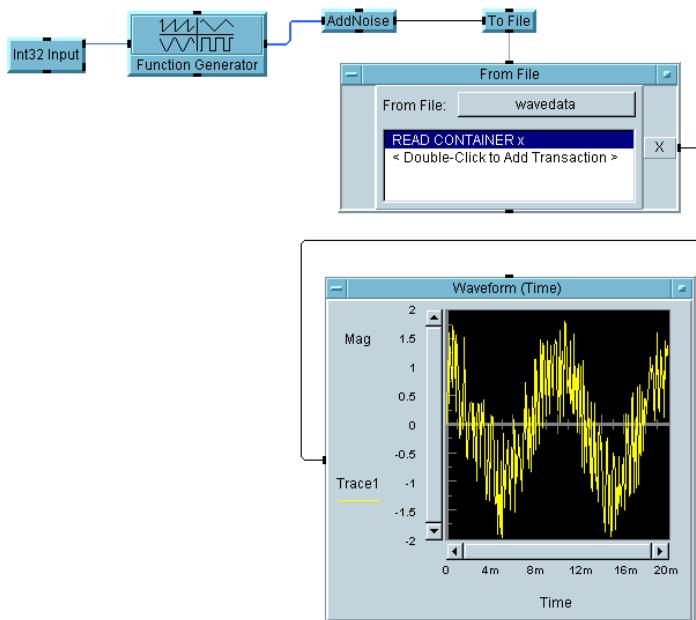

Figure 2-12. Adding a From File Object
the objects as shown in Figure 2-12. The sequence line between To File and From File ensures the data is written to the file before it is read.
7. Run the program. It should similar to Figure 2-12. Save the program as usrobj-program.vee.